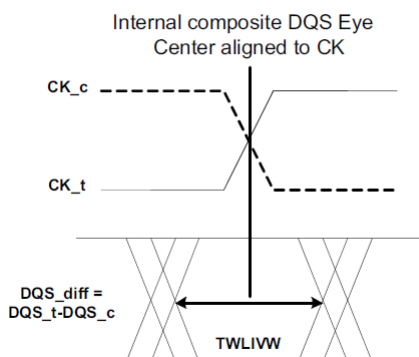

Figure 25.  $DQS\_t/DQS\_c$  to  $CK\_t/CK\_c$  timings at the DRAM pins referenced from the internal latch
- 28)  $t_{WLIW}$  is defined in a similar manner to  $t_{dIVW\_Total}$ , except that here it is a DQS input valid window with respect to CK. This would need to account for all VT (voltage and temperature) drift terms between CK and DQS within the DRAM that affect the write-leveling input valid window. The DQS input mask for timing with respect to CK is shown in Figure 25. The "total" mask ( $t_{WLIW}$ ) defines the time the input signal must not encroach in order for the DQS input to be successfully captured by CK with a BER of lower than  $t_{bd}$ . The mask is a receiver property and it is not the valid data-eye.